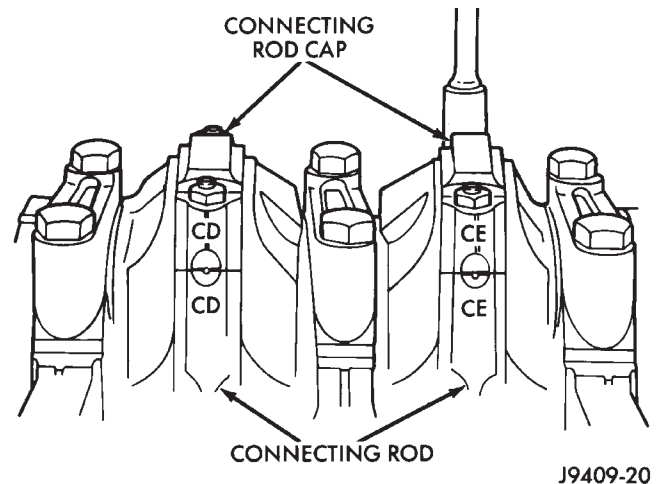

Fig. 52 Stamped Connecting Rods and Caps
- (1) Remove the engine cylinder head cover.
- (2) Remove the rocker arms, bridges and pivots.
- (3) Remove the push rods.
- (4) Remove the engine cylinder head.
- (5) Position the pistons one at a time near the bottom of the stroke. Use a ridge reamer to remove the ridge from the top end of the cylinder walls. Use a protective cloth to collect the cuttings.
- (6) Raise the vehicle.
- (7) Drain the engine oil.
- (8) Remove the oil pan and gasket.
- (9) Remove the connecting rod bearing caps and inserts. Mark the caps and rods with the cylinder bore location. The connecting rods and caps are stamped with a two letter combination (Fig. 52).
- (10) Lower the vehicle until it is about 2 feet from the floor.